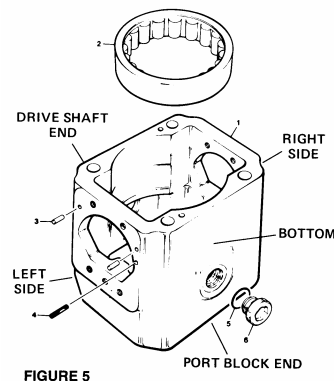

FIGURE 5
**See Figure 5.** Wash and dry all parts. During assembly, lapped and ground surfaces should be kept lubricated with clean oil and protected from nicks or surface damage. Position housing (1) on a clean flat surface with the large open end up.
**PARTS LIST FOR FIGURE 5**
| 4    | Housing assembly (figure 5)       | S13-42335  | 1    |